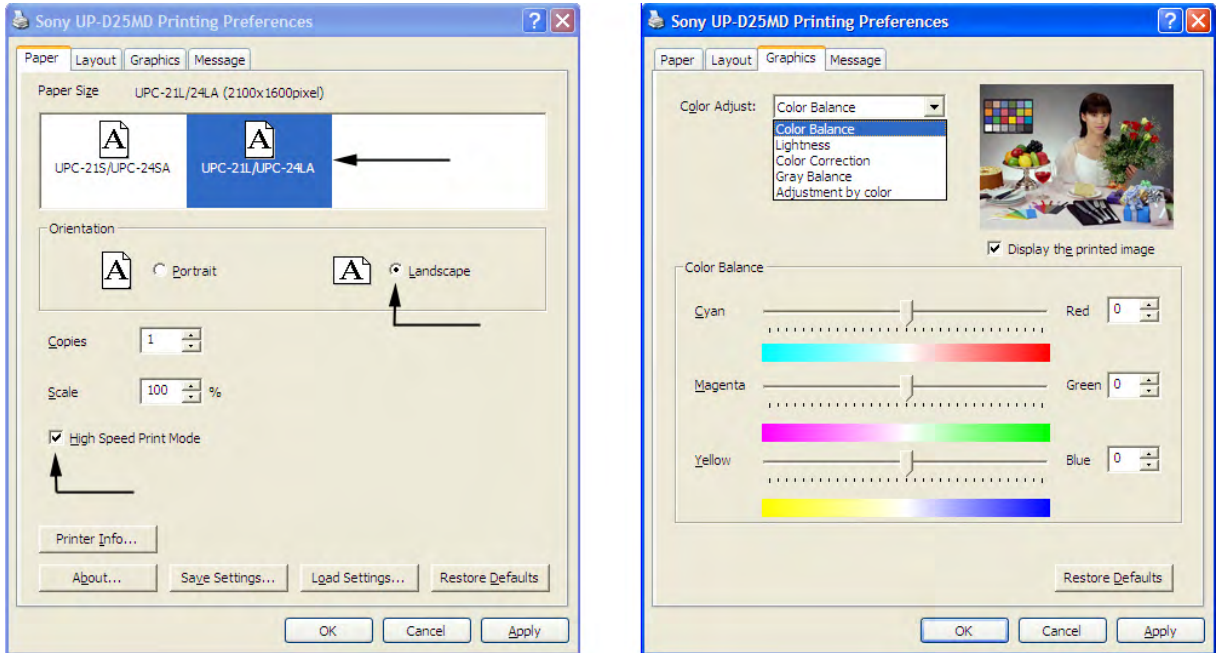

Figure 3-26 Paper / Graphics page
2. Select the **Paper** page and set settings as shown in the left image at *Figure 3-26 on page 3-36*.